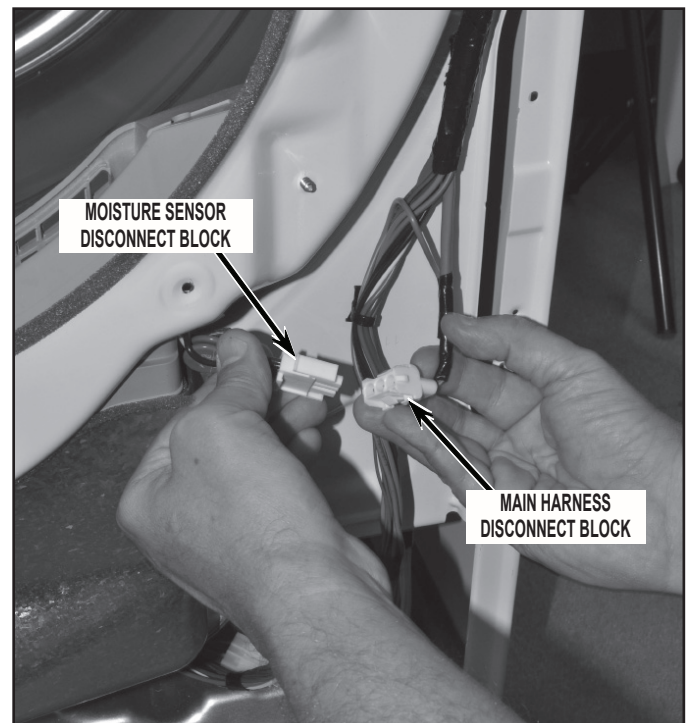

FIGURE 10
12. Disconnect moisture sensor disconnect block from main harness disconnect block located at lower right side of dryer. See *Figure 10*.